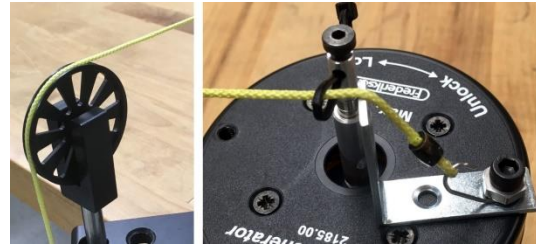

Figure 4: Standing-wave setup
2. Attach one end of the white string to the vibration generator and drape the other end over the pulley. Hang the mass hanger on the free end. The setup should look like Figure 4. Add 140 g on the hanger to stretch the string. Adjust the separation between the vibrator and the pulley such that the hanger does not touch the floor.